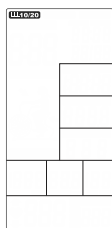

FIGURE 4
2. Windows INTERVAL10/20, INTERVAL20/10, INTERVALCUSTOM, READY, WORK, REST, TIME, DISTANCE, CALORIES, WATTS, SPEED, RPM and ♥ will flash in sequence every 1s (Figure 4 ~ Figure 16). If no keys are used or there is no movement or pulse input for 60s, the monitor will go to Sleep mode.